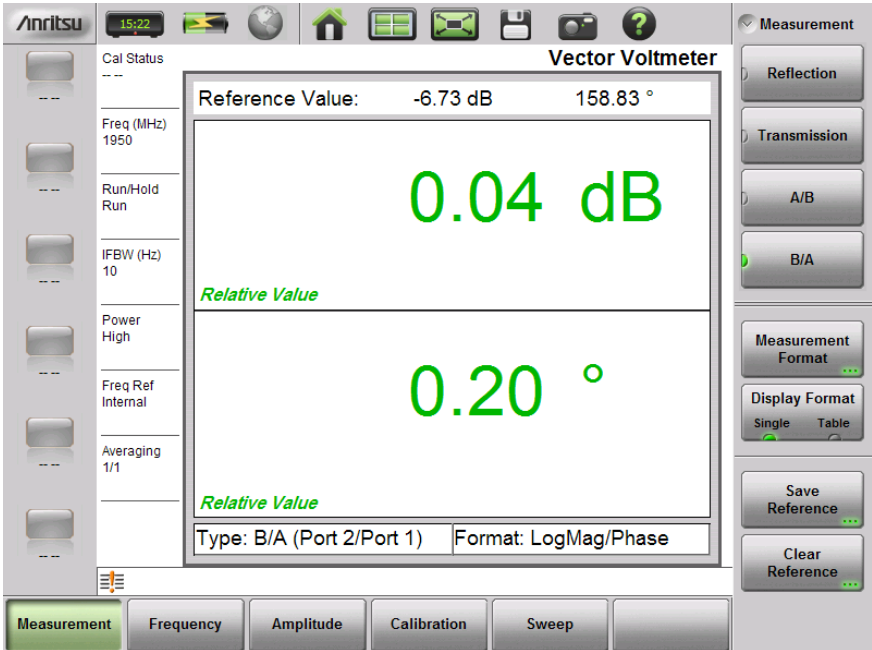

Figure 8-6. Second Side of Splitter Relative to Saved Reference
- After the reference value has been stored (in Step 2), reverse the splitter output connections and remeasure. The difference between both outputs of the splitter is displayed as the *Relative Value* that is shown in green on the S820E screen. This is the error between the two outputs of the splitter. A properly working splitter should have very closely matched values, as seen in Figure 8-6. When in doubt, consult the splitter data sheet to determine if it is still functioning within specifications.